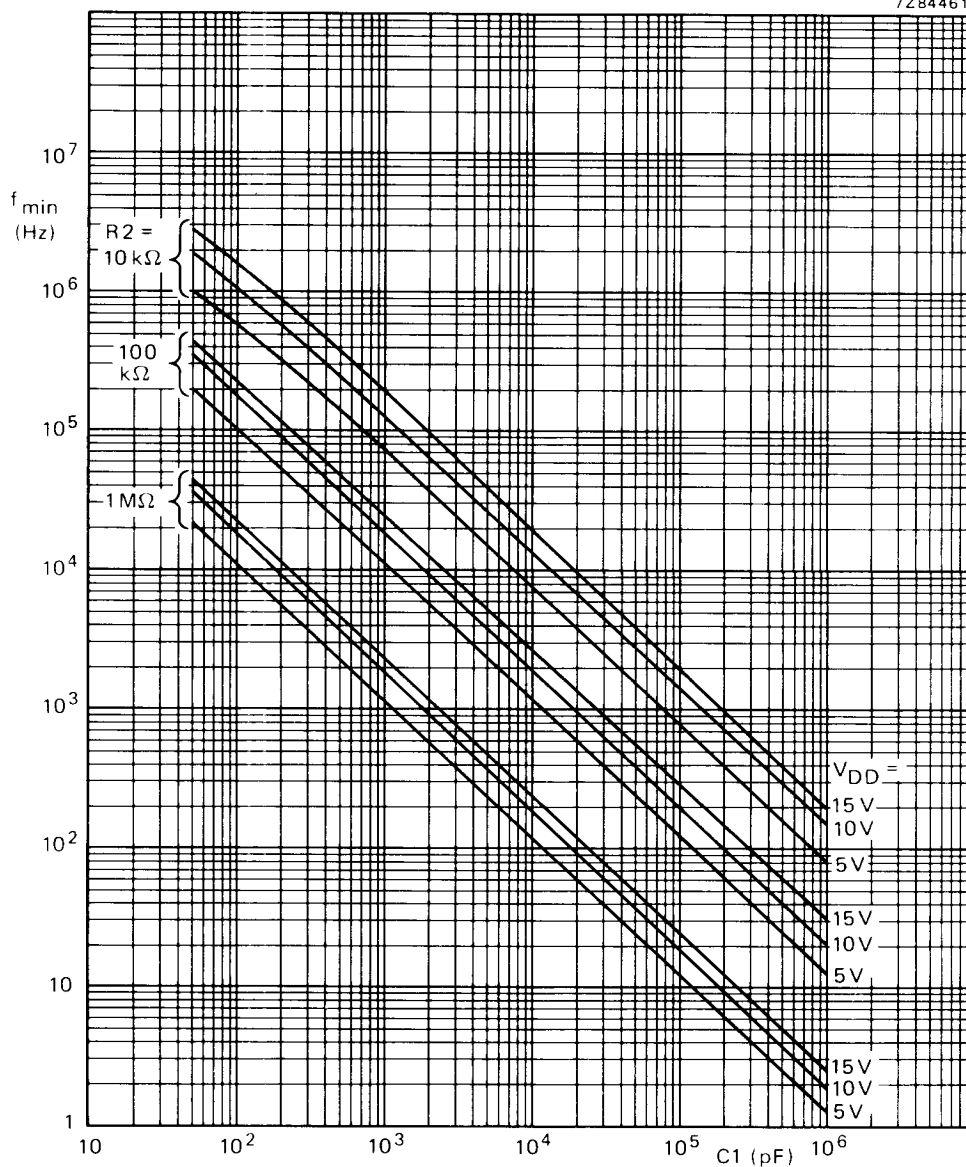
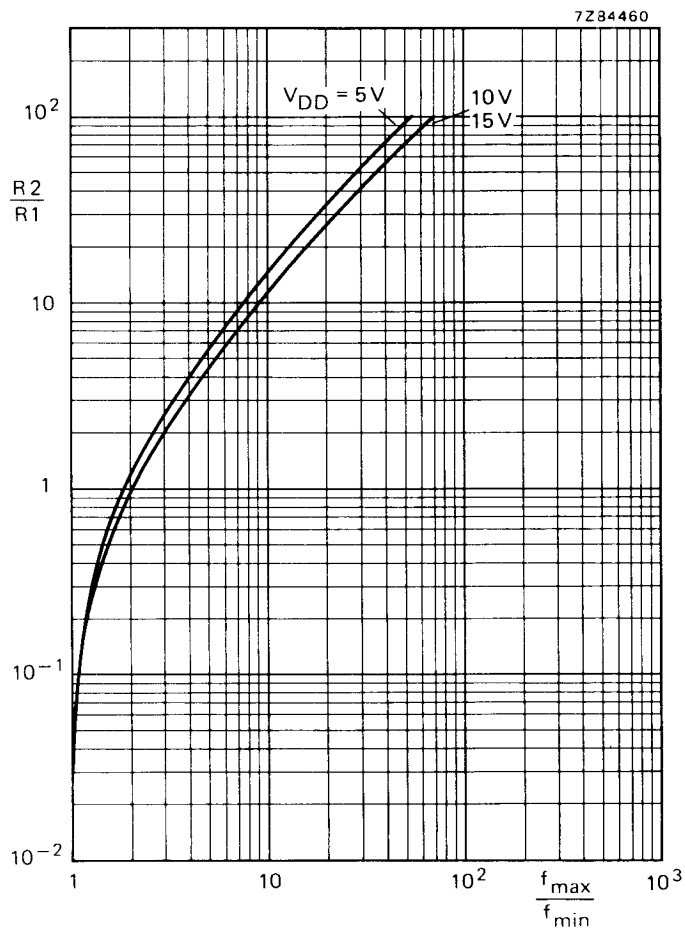

Fig. 8 Typical frequency offset as a function of capacitor $C1$; $T_{amb} = 25^\circ\text{C}$; V_{COIN} at V_{SS} ; INH at V_{SS} ; $R1 = \infty$.
Fig. 9 Typical ratio of $R2/R1$ as a function of the ratio f_{\max}/f_{\min} .
- Given f_O and f_L : calculate f_{min} from the equation $f_{min} = f_O - f_L$; use f_{min} with Fig. 8 to determine R2 and C1; calculate
$\frac{f_{max}}{f_{min}}$ from the equation $\frac{f_{max}}{f_{min}} = \frac{f_O + f_L}{f_O - f_L}$; use $\frac{f_{max}}{f_{min}}$ with Fig. 9 to determine the ratio R2/R1 to obtain R1.
- Given f_{min} and f_{max} : use f_{min} with Fig. 8 to determine R2 and C1; calculate $\frac{f_{max}}{f_{min}}$; use $\frac{f_{max}}{f_{min}}$ with Fig. 9 to determine R2/R1 to obtain R1.